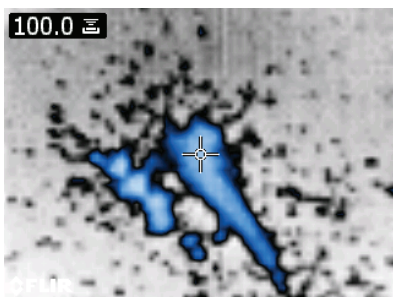

Fig. 5-8b Saved image with Target area
5. Press the Select button to make a measurement and capture (save) the image which will include the moisture reading (Fig. 5-8b) or press the Back button to cancel and return to the normal operating mode.